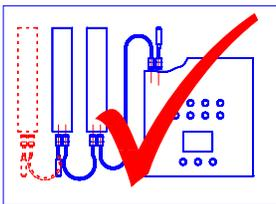

Figure 1
2.1.1 Insert one Terminator Plug into one of the sockets in the UIB and a cable into the second, the other end of the cable is then plugged into one of the sockets in the first Node. The second cable connects to the remaining RJ45 socket in the first Node with the other end connecting to the second Node. Insert remaining Termination plug into the empty socket in the second Node (Figure 1). Additional Nodes can be added as indicated by the dotted image.